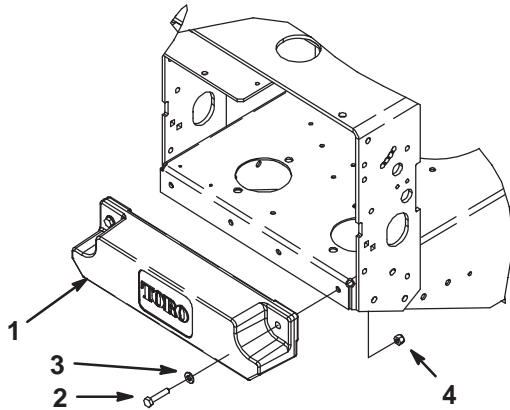

Figure 22
- The weight kit mounted in the **back** position is **optional** when a Tru-Trak[®] Sulky is not installed (Fig. 22).